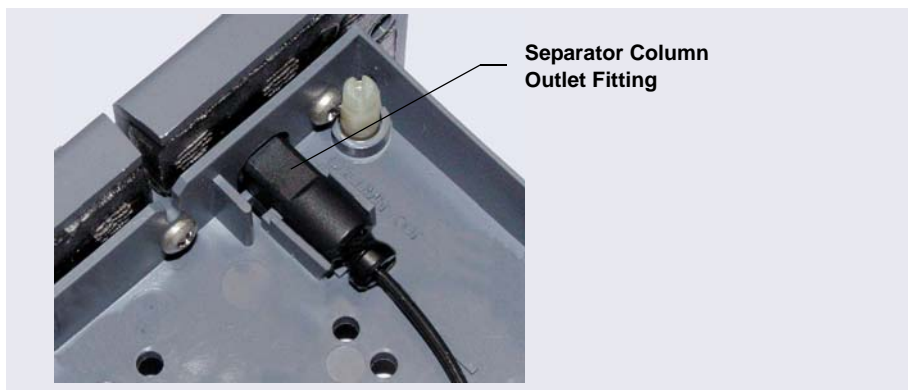

Figure 4-11. Separator Column Outlet Fitting in Capillary Column Tray
4. Orient the separator column's outlet fitting with a flat side facing up and push the fitting into the opening at the front of the column tray until it stops. Press the fitting down into the clip (see Figure 4-11).